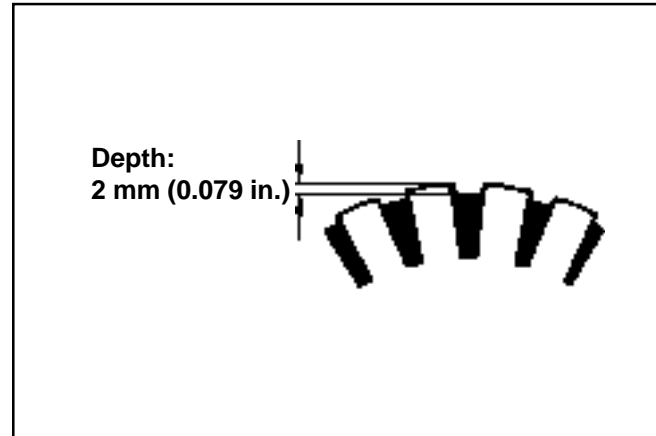

Figure 8-35. Commutator Mica Depth.
- Measure the mica (insulation depth between the commutator segments). The depth should be **2 mm (0.079 in.)**. If less, cut/scrape the mica to the proper measurement using a hacksaw blade or similar tool ground to fit between the segments. See Figure 8-35.